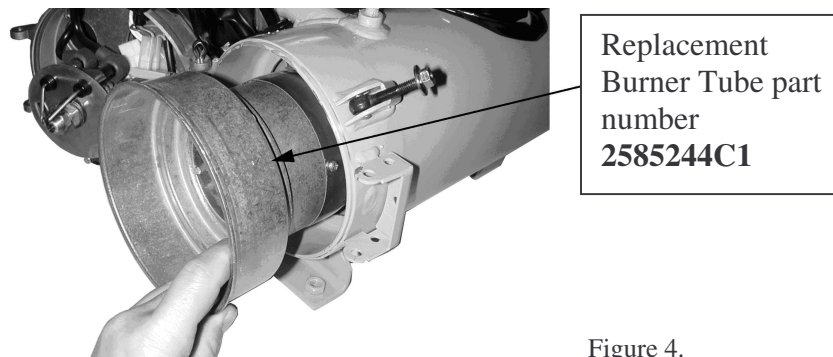

Figure 4.
6. The burner tube can now be carefully pulled out (see figure 4). If burner tube fit is very tight, use two screwdrivers to gently pry it evenly away from the heat exchanger. **Destroy the burner tube NOW so that it cannot be accidentally re-used (hit aluminum section of tube with a hammer- - once it is damaged, the tube is no longer useable).** Do a visual check of the heat exchanger for damages. If necessary, remove carbon deposits with a steel brush. Insert the new burner tube into the heat exchanger until it is fully seated. No further adjustment is necessary.